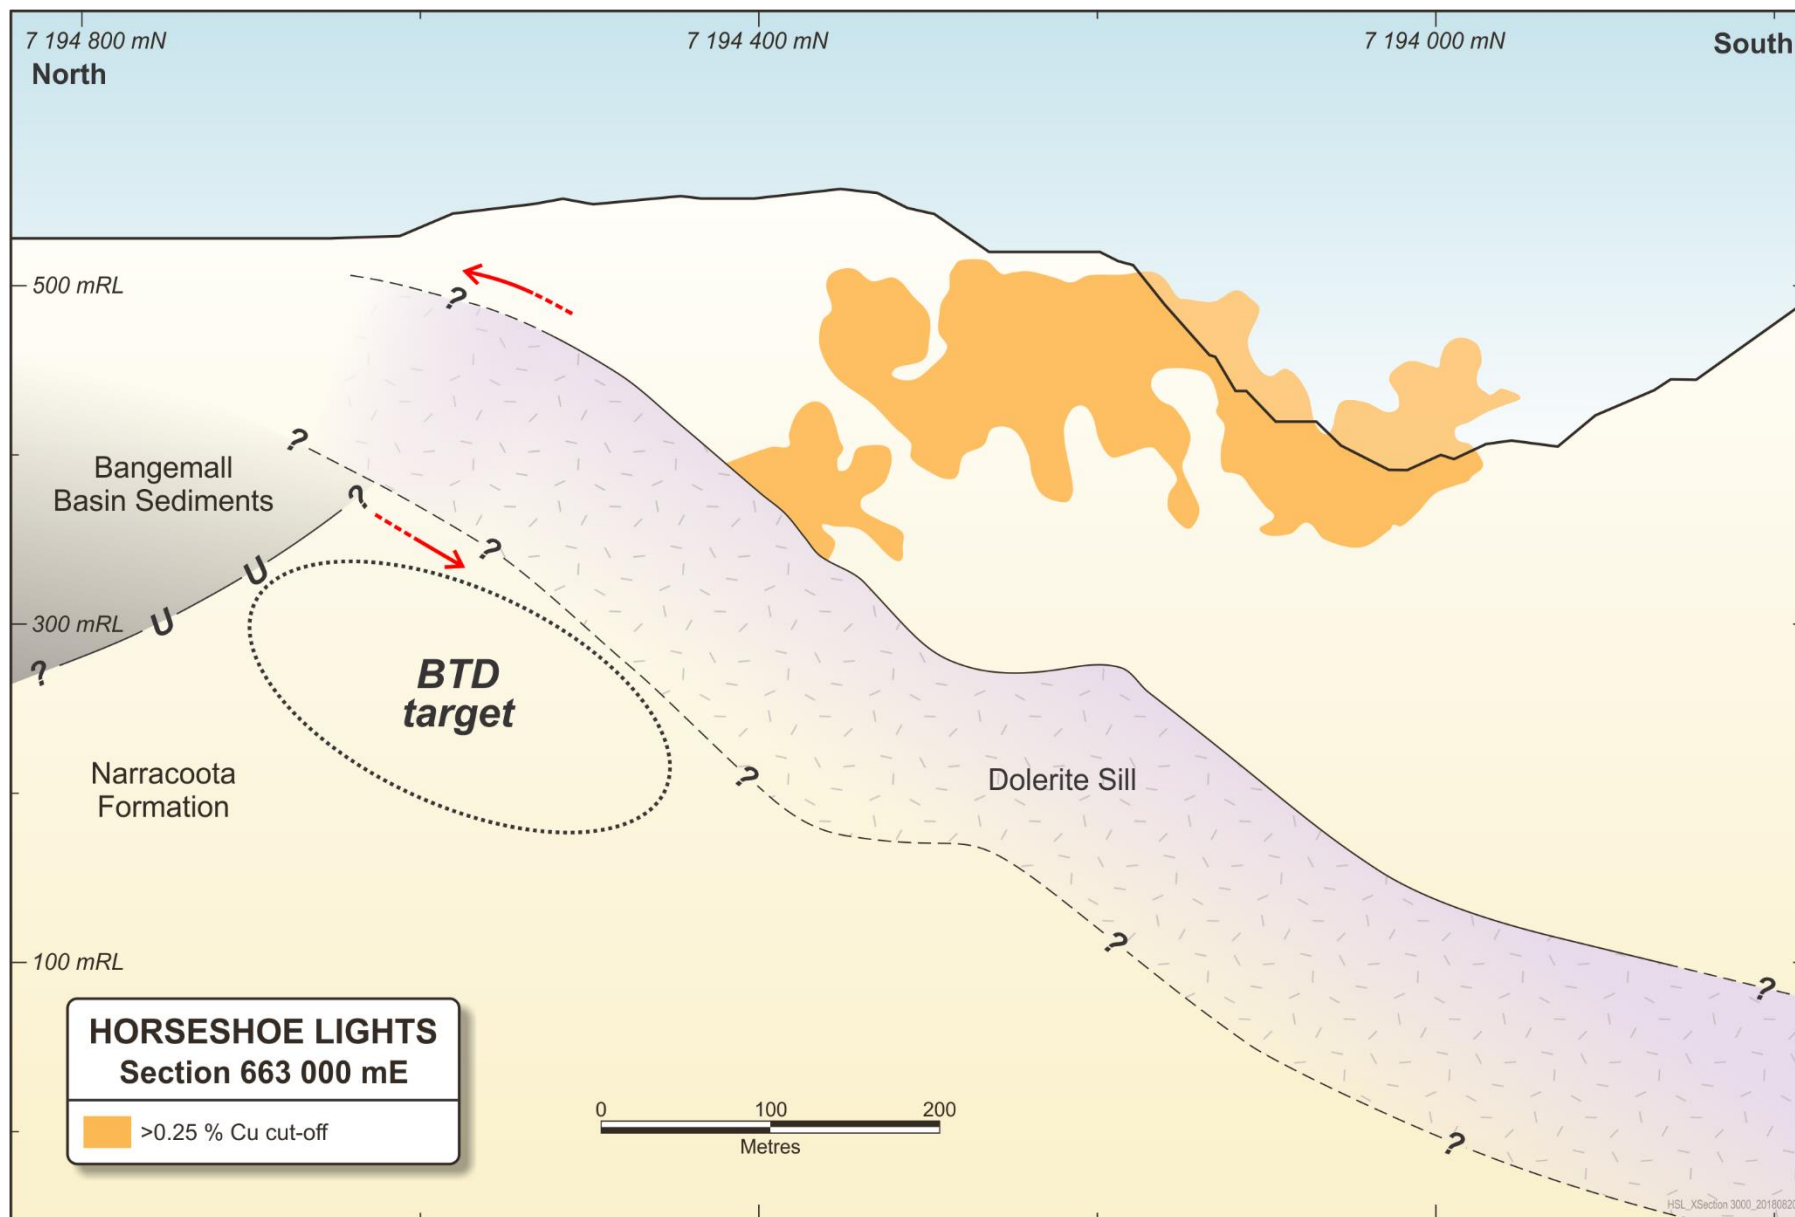
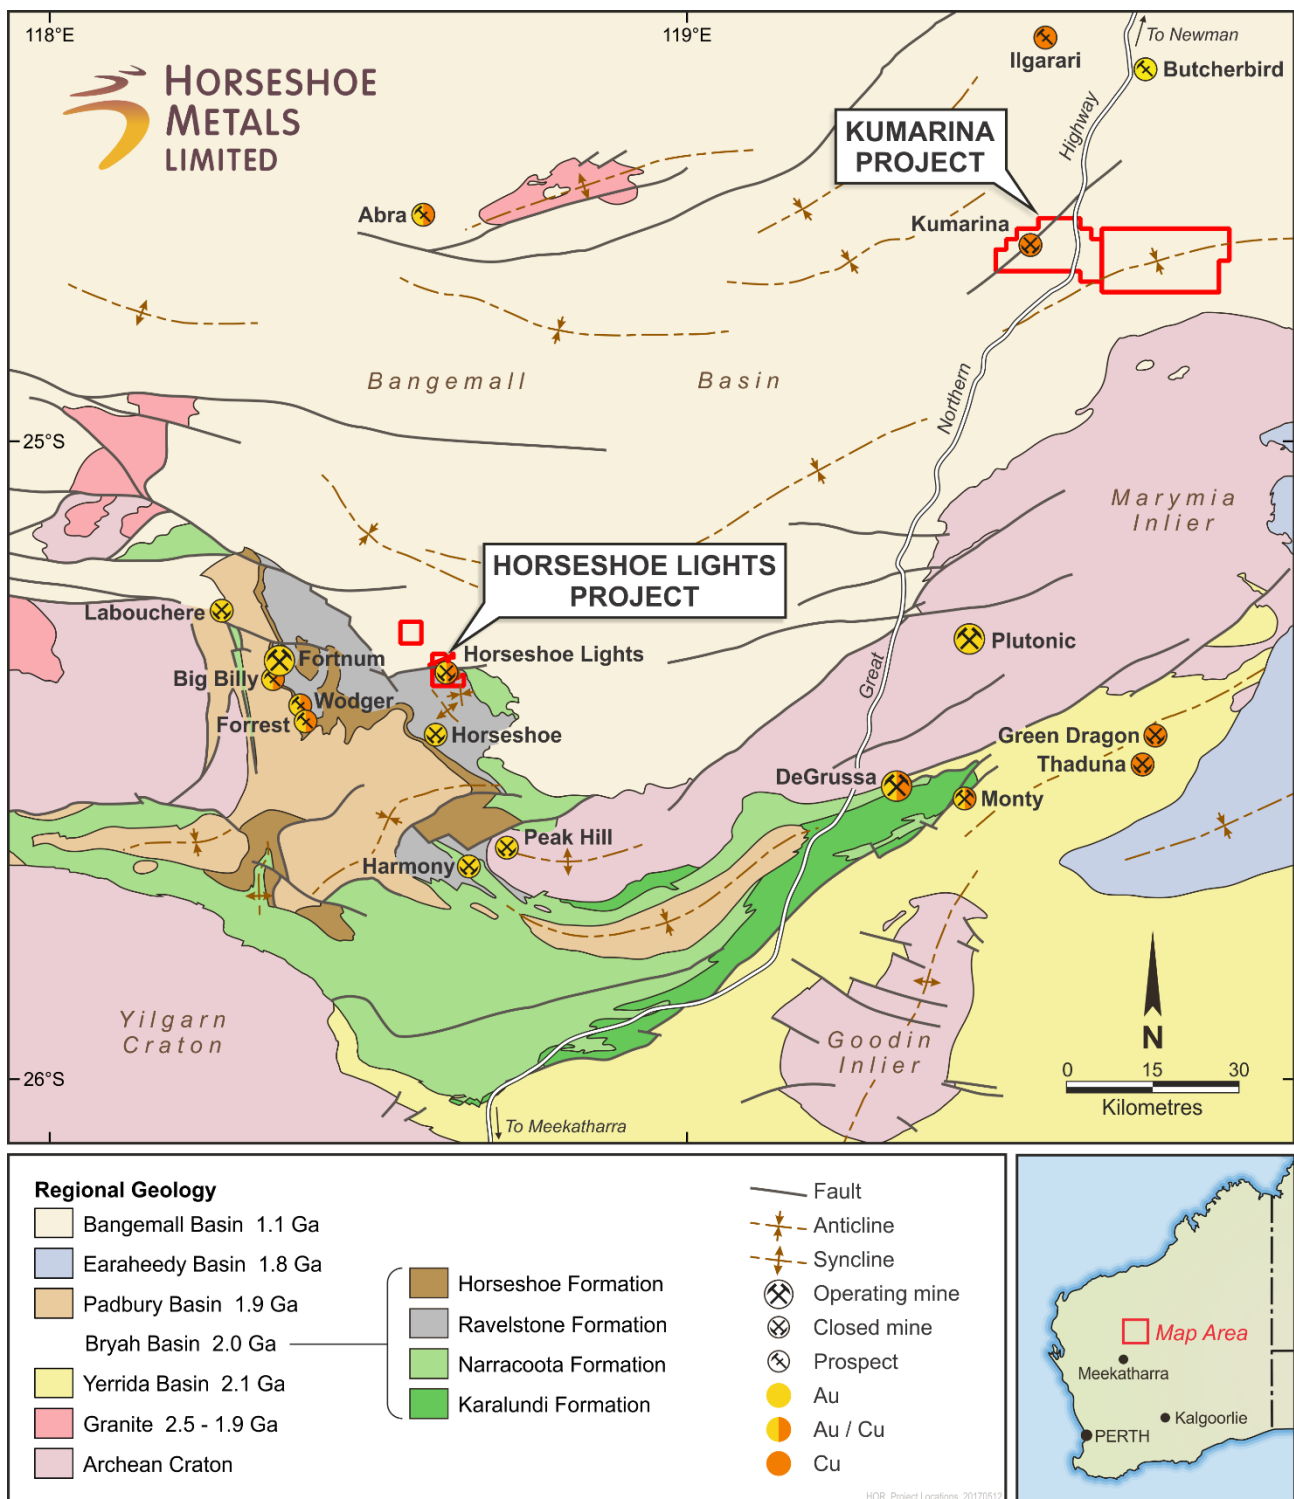

Figure 4: Conceptual BTM Target, Cross Section 663000 mE, looking East, Horseshoe Lights Deposit
Figure 7: Location map and geology, Horseshoe Lights and Kumarina Projects
Horseshoe Metals Limited (ASX: HOR) ("Horseshoe" or "the Company") is pleased to release the results of a 15-hole Reverse Circulation (RC) drilling program completed at its Horseshoe Lights Project located 75 km west of Sandfire Resources NL's (ASX:SFR) DeGrussa copper-gold mine, in the Bryah Basin region of Western Australia (Figure 7).
The dolerite is interpreted to occupy a thrust fault that pushes the Narracoota over the Bangemall Group sediments (refer Figure 7 for regional geology plan), which means that that Narracoota Formation should re-appear beneath it, and the formation may continue to host VMS mineralisation below the dolerite (refer Figure 4- Conceptual BTD target).